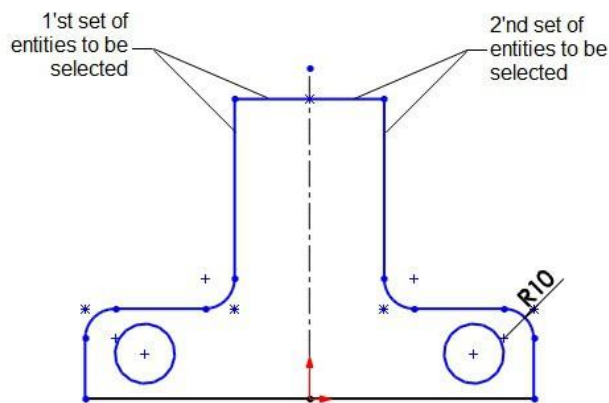

Figure 3-22 Entities to be selected for chamfering
3. Set the value of the **Distance 1** spinner to **10**. Next, select the first set of entities to be chamfered, refer to Figure 3-22; the **SOLIDWORKS** message window is displayed with the message that **At least one sketch constraint is about to be lost. Chamfer anyway?**